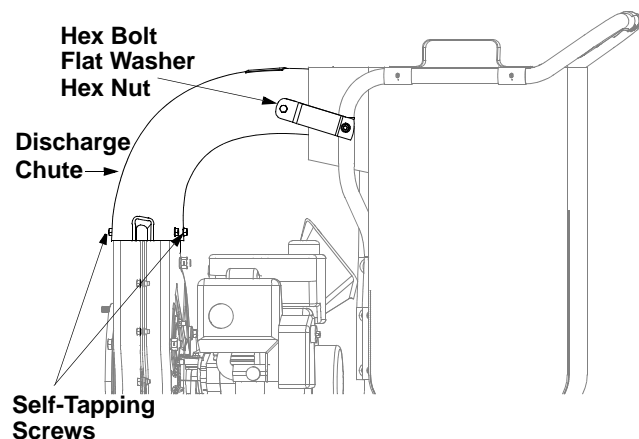

Figure 11
- Remove the four self-tapping screws from the bottom of the discharge chute, and the hex bolt, flat washer and hex nut from the top. Remove the discharge chute assembly. See Figure 11.
- Remove the two hex bolts and hex lock nuts which extend through the housing. Lift the flail screen out of the housing. Refer to Figure 11.